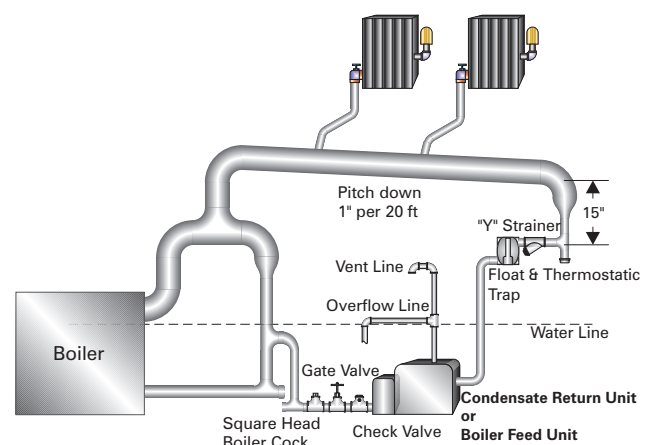

Figure 8: One-Pipe Pumped Return System
- Always install a **boiler cock** after the pump to allow reducing the discharge pressure to the boiler. Pumping at too fast a rate will cause spraying in a Hartford loop and can cause collapse of the boiler water level. The discharge pressure after the valve should be around 5 psig higher than the boiler operating pressure. Figure 8 shows a detail of the pump discharge piping.
- **Parallel flow gravity systems** – make sure that the distance from the new water line to the lowest steam carrying pipe (Dimension A) will be at least 28 inches. If Dimension A is less than 28 inches, you may need to install a condensate unit or boiler feed unit plus a float and thermostatic trap at the end of the main and all riser drips. See Figure 8. On some systems, less than 28 inches may work, but the risk is that condensate will back into the main or branches and cause water hammer or lack of heat.